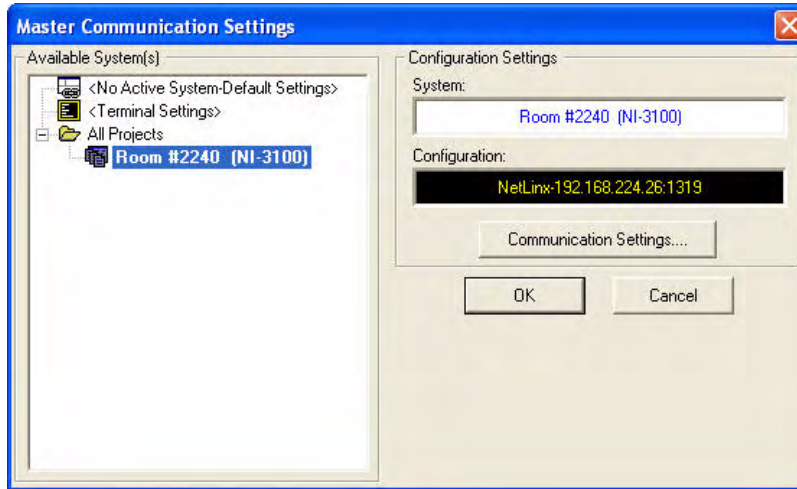

FIG. 82 NetLinX Studio - Master Communication Settings dialog
2. In NetLinX Studio, open the *Master Communication Settings* dialog (FIG. 82).